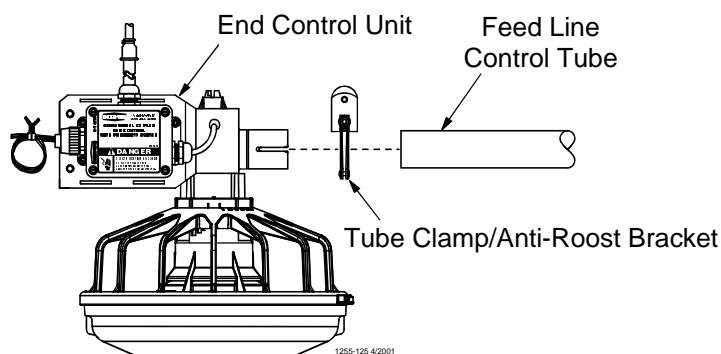

Figure 27. Connecting End Control Unit to the Feed Line Tube
1. Assemble the End Control Unit to the Feeder Line Control Tube using a clamp/anti-roost bracket. See **Figure 27. DO NOT INSTALL THE POWER UNIT AT THIS TIME.**